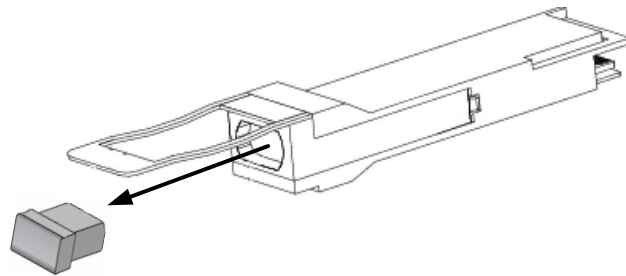

Figure 15: QSFP+ Module with pull tab latch
2. Remove the dust plugs from the module as shown in Figure 15.